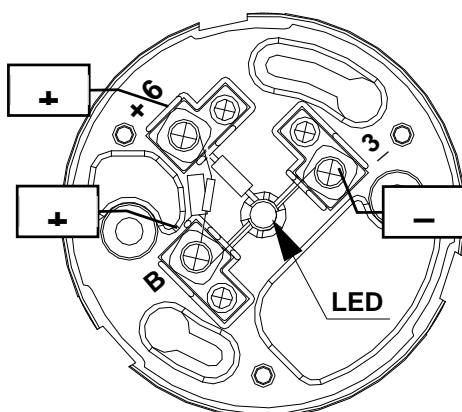

Fig. 1: 681 wiring connections
2. Connect the conductors to the terminals as shown in Fig. 1.